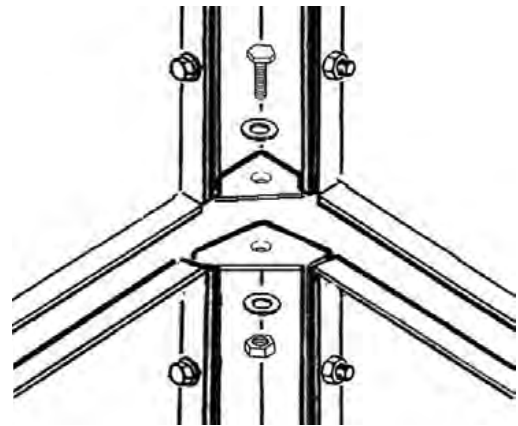

Fig. 4
b) The machine unit to the base frame mount (Fig. 4)